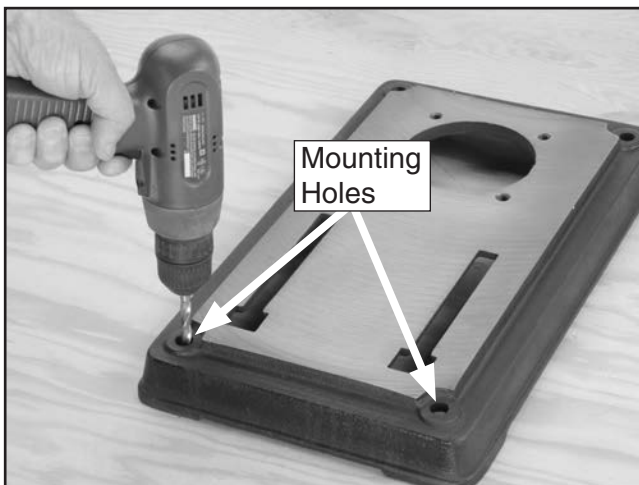

Figure 20. Using holes as a drilling guide.
2. Using holes in the base as a guide (**Figure 20**), drill and bolt the base to the bench top using lag bolts, or carriage bolts, flat washers, and hex nuts.